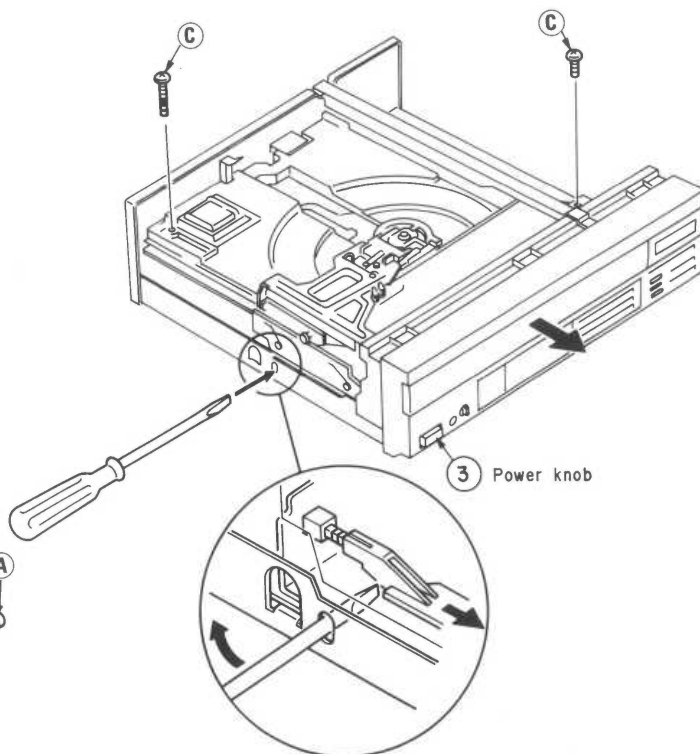

Fig. 7-2
- ① Remove six screws (A) to remove the bonnet.
- ② To remove the front panel assembly, unscrew three screws (B) and lift the catches as shown in the figure and lower the front panel toward the front.
- ③ To remove the power knob, insert the flat-blade screwdriver into the slit on the side of the chassis as shown in Fig. 7-2, and push the protrusion of the knob. You can now remove the power knob easily. (Check that the power switch is in the OFF position before removal.)
### 7.2 REMOVING THE TRAY (Fig. 7-2, 3)
- ① Remove two stopper screws (C) shown in Fig. 7-2. When the power can be turned ON, press the OPEN button then pull the tray out from the player.